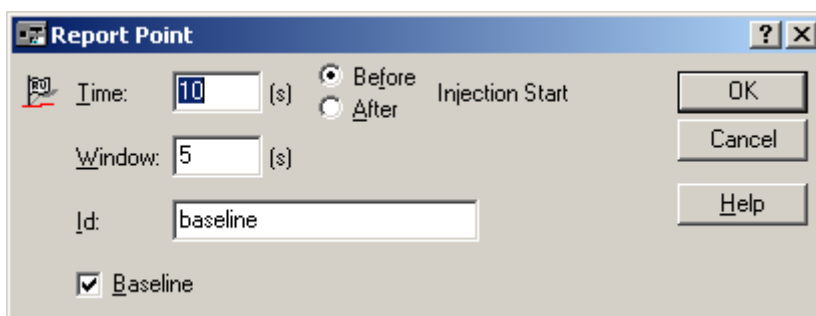

Figure 4.6
- 4.4.4.2 Report Point window (Fig. 4.6) will open.
- 4.4.4.4 Type in the information as shown in the Report Point window (Fig 4.6).